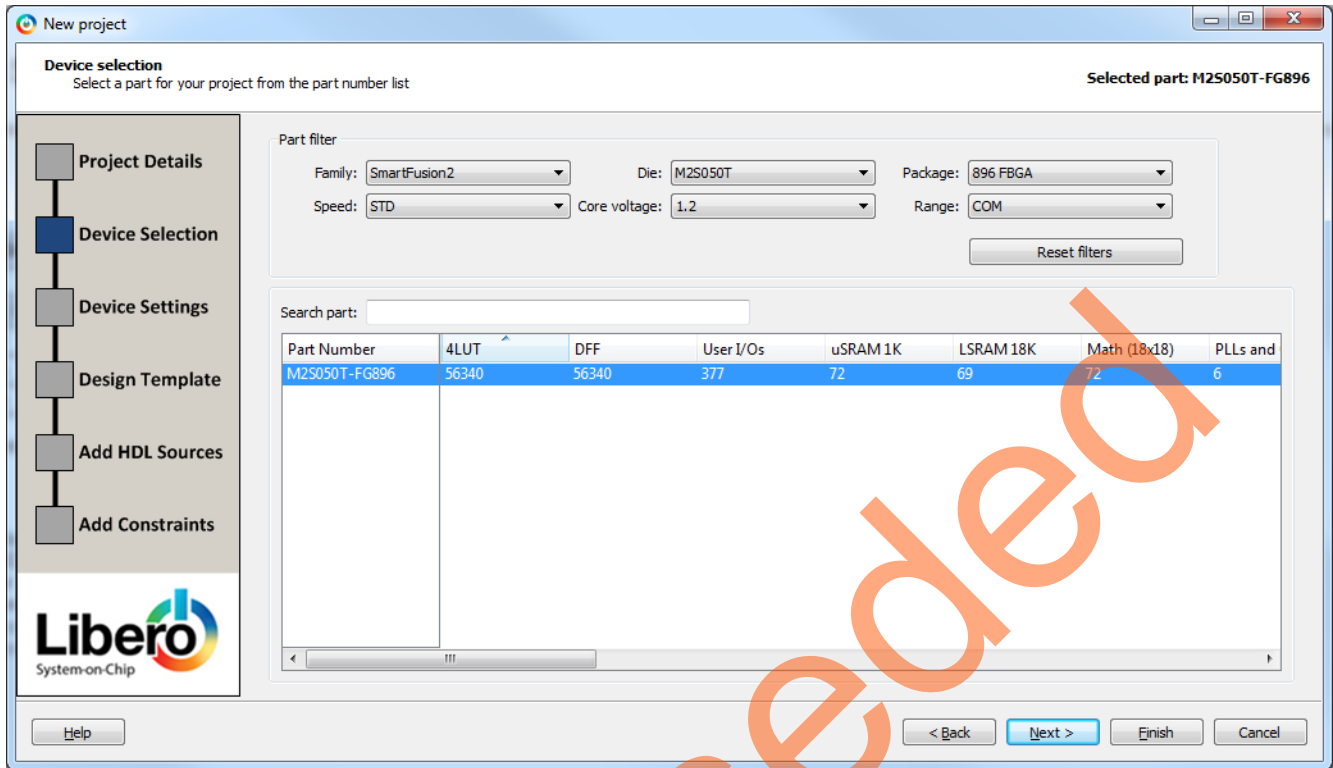

Figure 3. New Project – Device Selection Page
4. Click **Next**. The **Device Selection** window is displayed, as shown in Figure 3.
- **Core Voltage (V):** 1.2